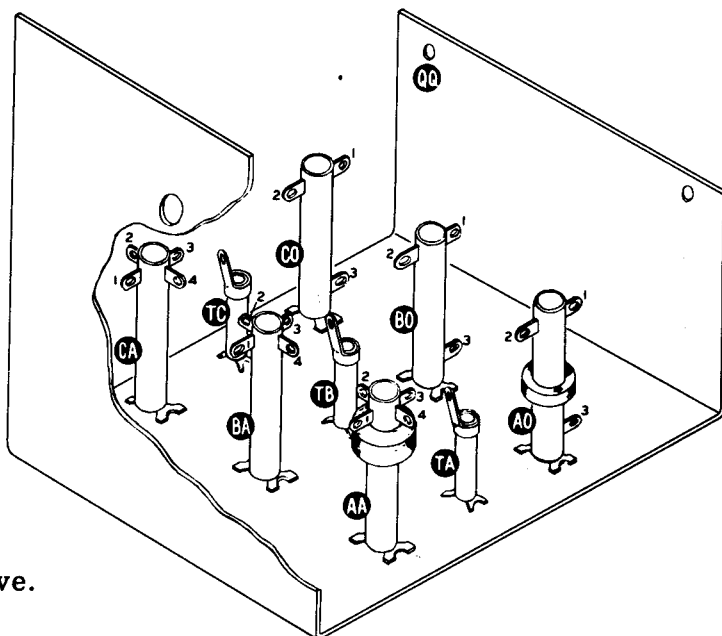

Figure 8
- ( ) Mount the three trimmer capacitors in the three small holes between the two rows of coils. See Figure 8. These trimmer positions are lettered TA, TB and TC, corresponding to positions of adjacent coils.